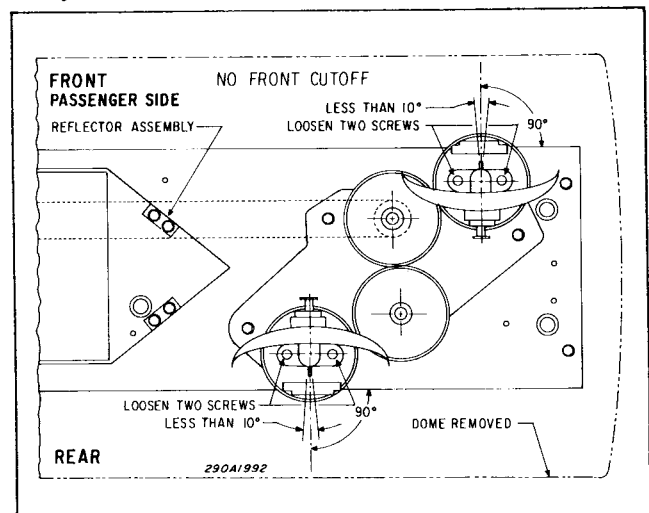

Figure 4-4. Reflector Assembly Adjustment. (No Front Cut-Off).
a. On units with no front cut-off, the reflector assemblies should be perpendicular in relation to the front and rear of the light bar (see Figure 4-4).
a. Loosen the two screws which secure the reflector assembly to the gear (see Figure 4-4 or 4-5).
a. Remove the retaining ring (see Figure 4-4 or 4-5). Lift the gear and reflector assembly to disengage the gear teeth.